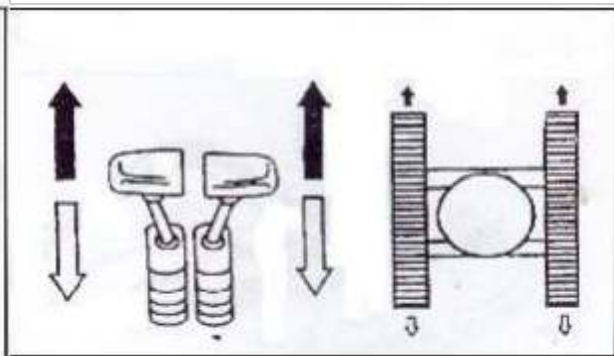

Fig 3-19
10. When traveling straight (Figure 3-19), push or pull the joystick/pedal forward or backward. The greater the joystick/pedal travel, the faster the travel speed.